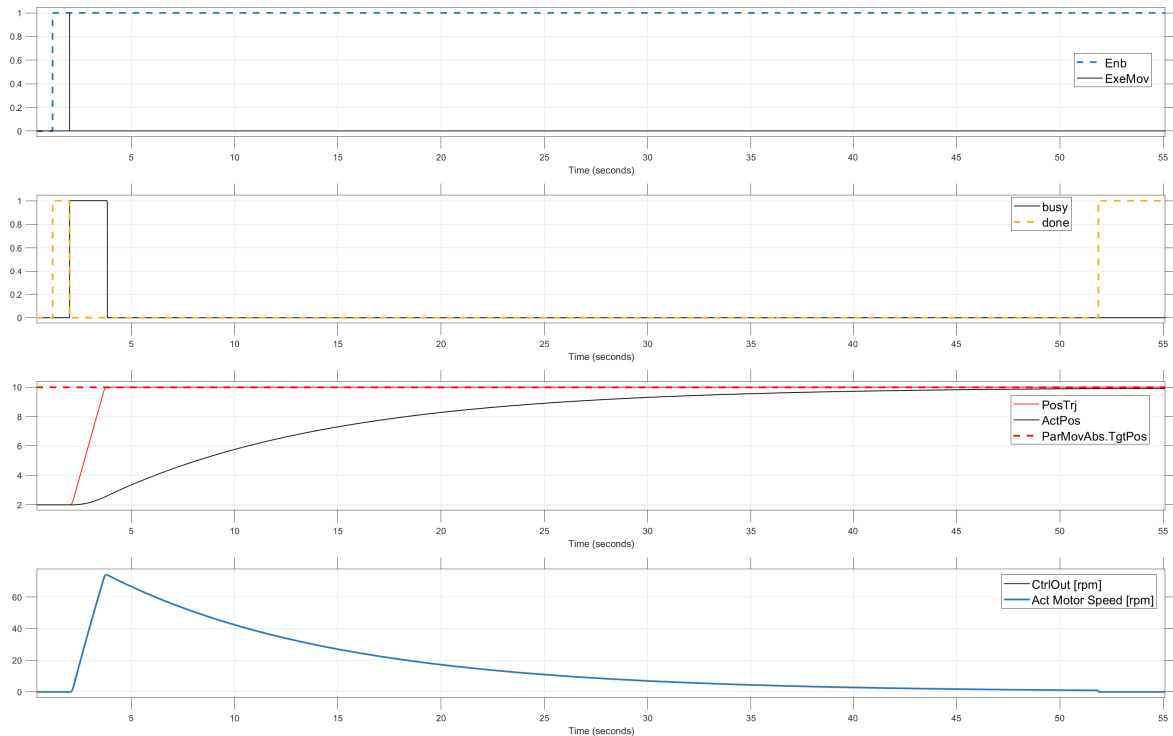

Figure 17: Example with K_p too small!! ($K_p = 10$, Window = 0.2mm, TuneTime = 0.3s)
- The goal at this stage is to ensure that the actual position and the generated position trajectory (*PosTrj* output) are parallel. Do not focus on target accuracy at this point. See figure 17.